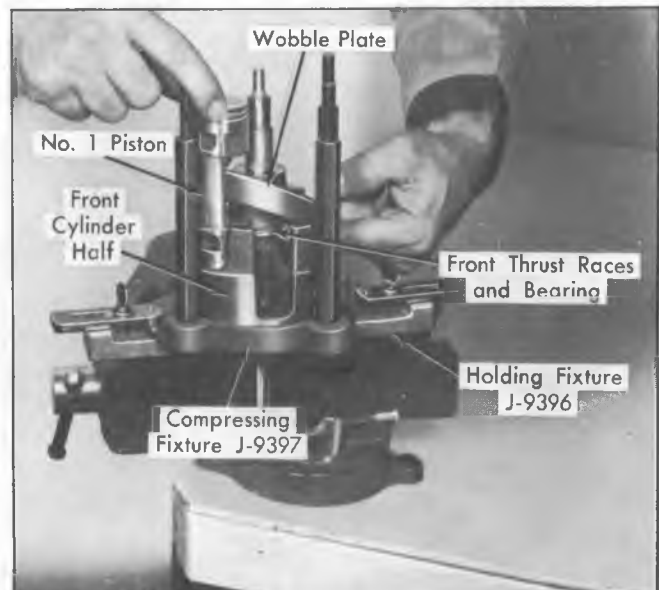

Fig. 21-Installing Piston, Front Ball and Seat and Rear Ball
8. Rotate the shaft and wobble plate until the high point of the wobble plate is directly over the cylinder bore previously designated as No. 1. Lift up slightly on the shaft and wobble plate assembly, insert the front (notched) end of the No. 1 piston into the cylinder bore, and at the same time, place the front ball and seat and the rear ball only over the wobble plate (fig. 21). Hold front thrust bearing pack tight against wobble plate hub while lifting shaft.